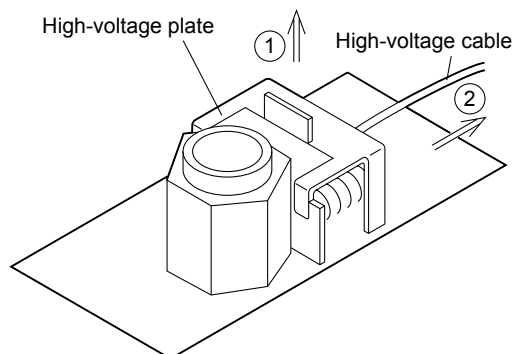

Fig. 18.9.4 Removing the FID high voltage unit
(2) Removing the FID high voltage unit
① Lift the high voltage plate up.
② Then pull the high voltage cable and its spring out horizontally as shown in Fig 18.9.4.